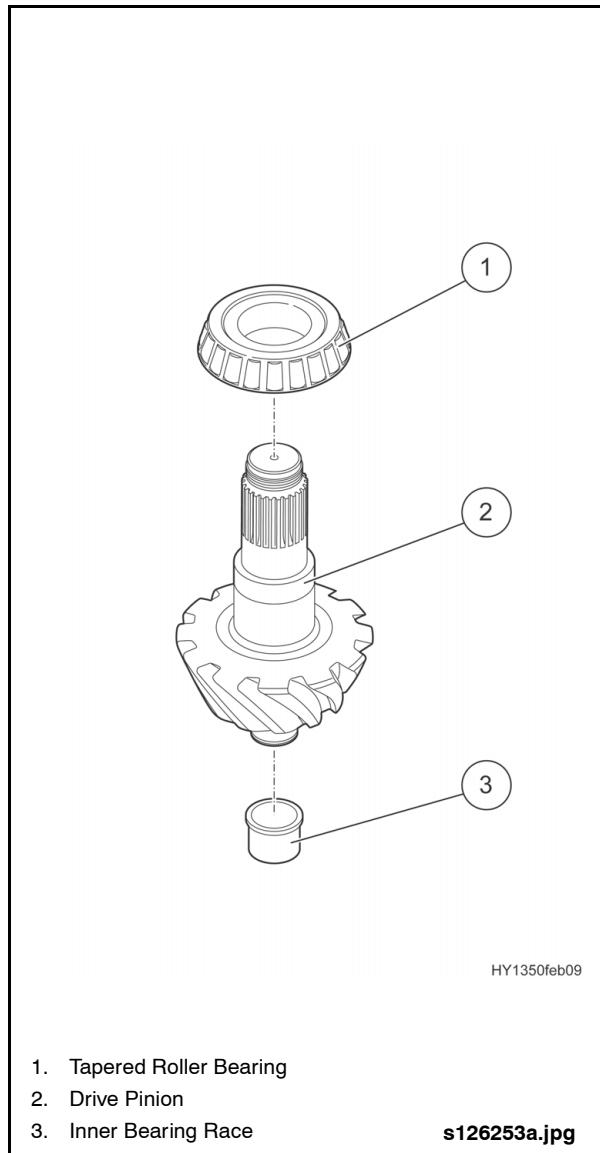

Fig. 2-98: Mounting Inner Tapered Roller Bearing & Inner Race
2. Install the tapered roller bearing on the drive pinion gear, ensuring it is fully seated. See "Fig. 2-98: Mounting Inner Tapered Roller Bearing & Inner Race" on page 77.